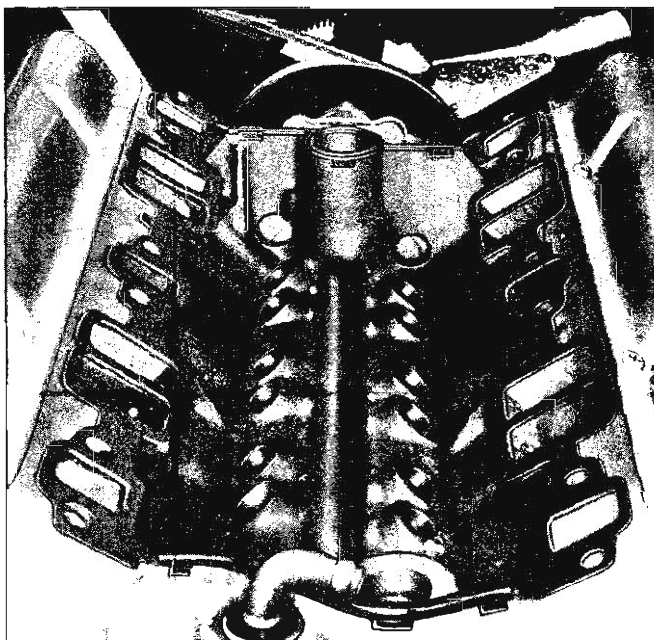

Fig. 3V—Manifold Gasket and Seal Location
2. Install manifold end seals on block with tabs as shown (fig. 3V).